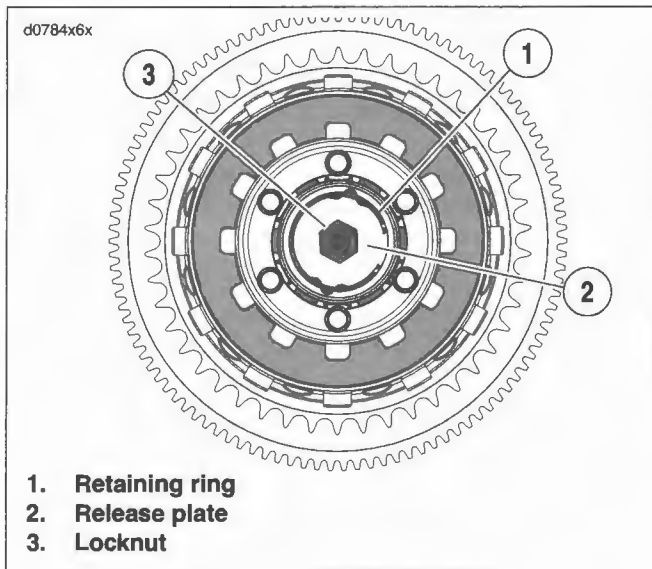

Figure 6-13. Clutch
4. See Figure 6-13. Loosen locknut (3).